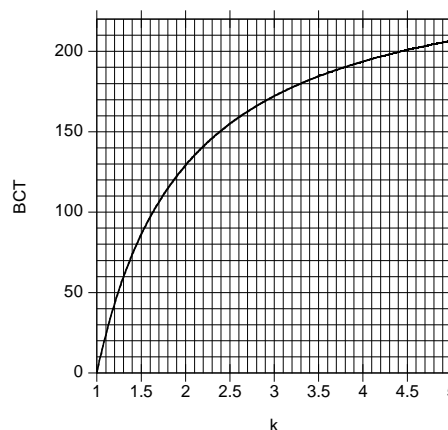

Figure 29: Relation Between the k Ratio and the Optimal BCT to Recover Linearity
Equation (9) is plotted in Figure 29 and Table 13.